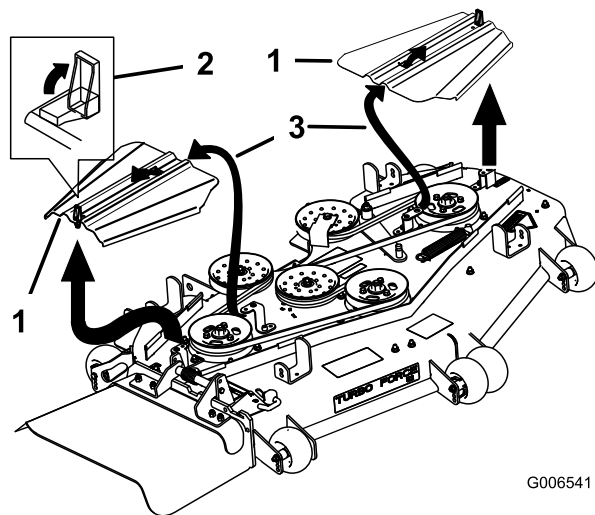

Figure 71
3. Remove the belt covers (Figure 71).